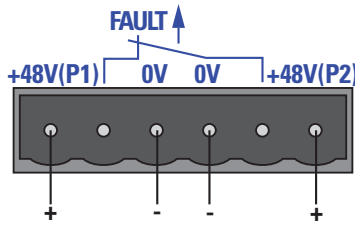

Figure 19: Connecting the PoE voltage at the 6-pin terminal block of the RS22/RS32 devices
- ▶ The signal contact ("FAULT", pin assignment of terminal block see figure 19) is used to monitor the device function, and thus supports remote diagnostics. You can specify the type of function monitoring in the Management.